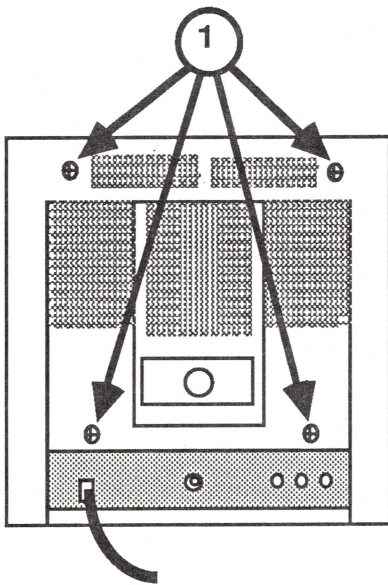

FIGURE 42
3. Replace the four screws (Figure 42, #1) at the back of the monitor.